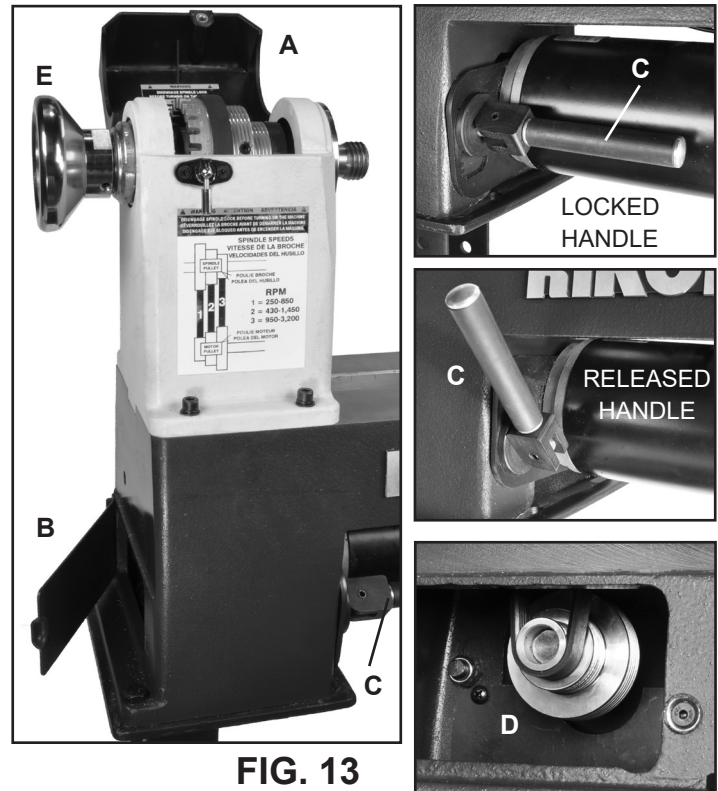

FIG. 13
2. Open the top Headstock Cover (#14B, FIG. 13, A) and the left side, Bed Cover Plate Door (#44A, B) to gain access to the belt and pulleys that are inside of the headstock.
- Pull the handle forward to unlock. FIG. 13, C.
4. Remove the Belt (#38B) from the lower Motor Pulley (#24A; FIG. 13, D). **NOTE:** If the belt is not to be saved, the old belt can be cut off at this time.
5. To remove the Handwheel (#1B, FIG. 13, E), loosen the two (2) Set Screws (#2B). Then use the 38mm Wrench on the flat portion of the spindle, and loosen the faceplate from the spindle by hand. Rotate the handwheel counter-clockwise to fully remove it from the spindle.